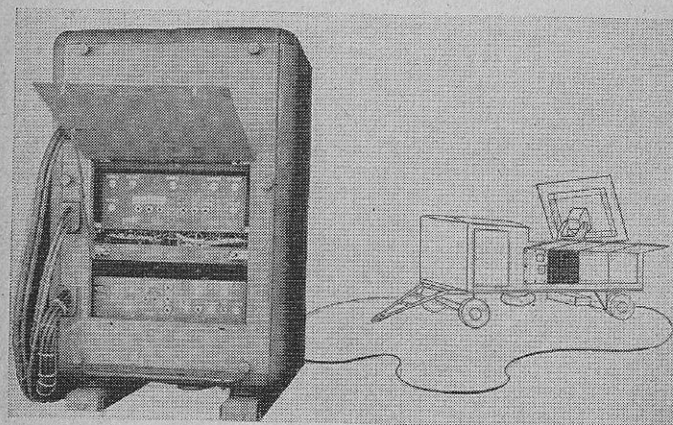

FIGURE 19.—Automatic controller.
■ **17. AUTOMATIC CONTROLLER.**—The function of this unit (fig. 19) is to control the **RANGING EQUIPMENT** automatically to give a continuous indication of target range and to control the antenna position in azimuth and elevation (angular height) so that it automatically follows the target and indicates angles of azimuth and elevation (angular height).